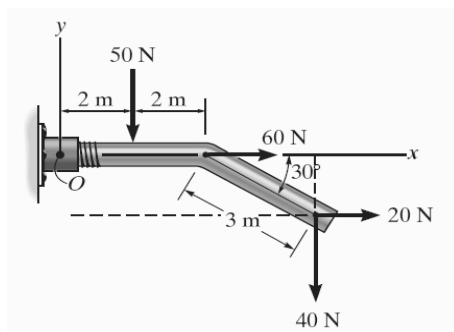

Figure 1-1
1. As shown in **Figure 1-1**, determine the resultant moment of the four forces acting on the rod about point O.